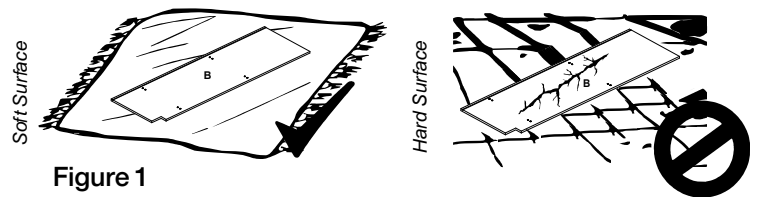

Figure 1
1. Unpack box & identify pieces on Page 2. Place side panel (B) onto a soft work surface. (Figure 1)